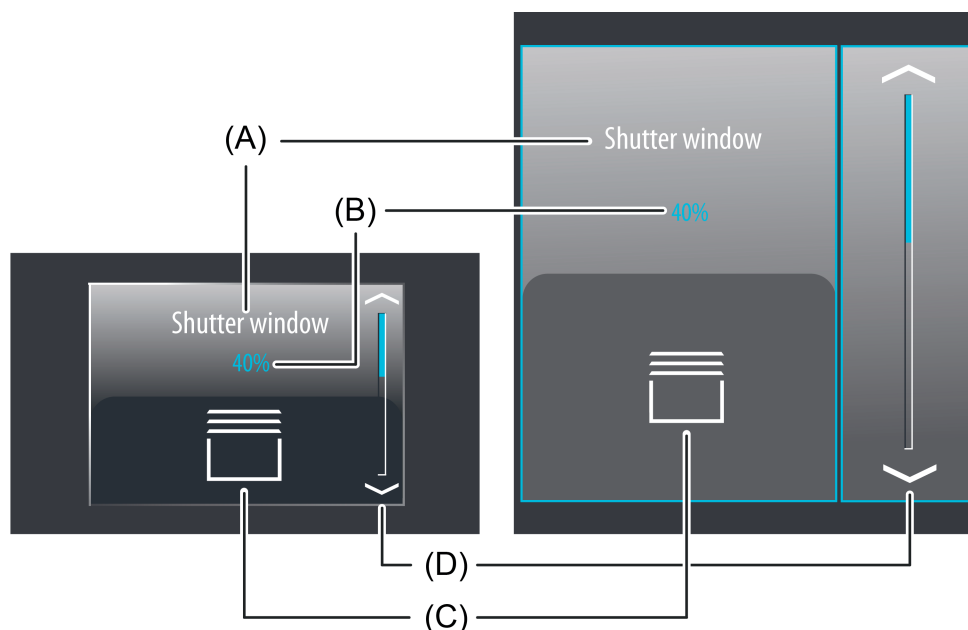

Figure 30: Example of an operating and display element of the function "Rolling shutter Step/Move"
The display area contains different display elements (figure 30) that are influenced by parameters. A name can be assigned to each KNX function in the configuration software (A). This text name is centred in the display element for display whereby controllable KNX functions are identified for the user (e.g. "Rolling shutter window"). In addition, a status value (B) can be displayed below the name, which displays position values in plain text ("0...100 %") depending on the object value of the position feedback of the Venetian blind or shutter actuator addressed. After a device reset, the display shows "---%" until a feedback object value of the status text is received.